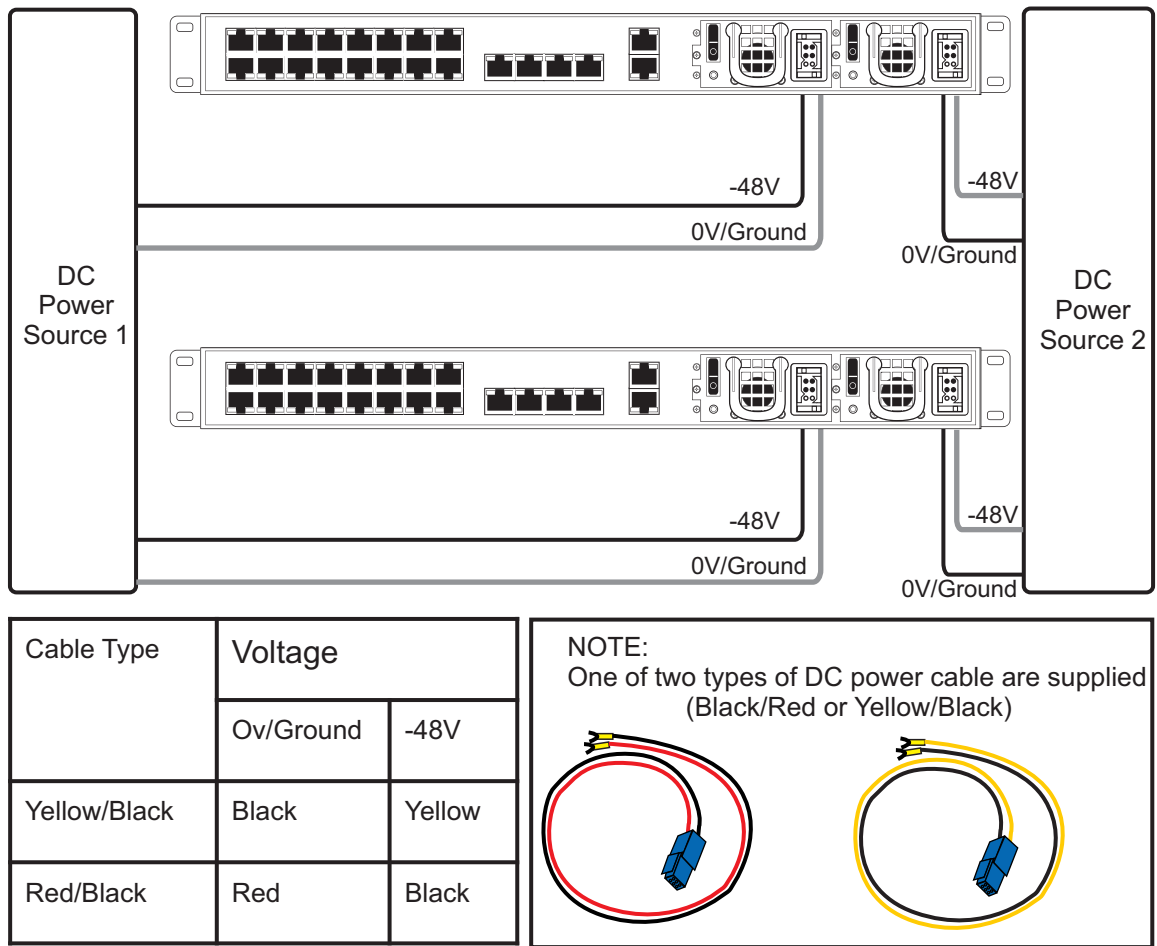

Figure 5.3 7800-TMS DC wiring diagram
1. Connect the first DC power connector of each 7800-TMS to DC power source one. See figure 5.3 on page 41.